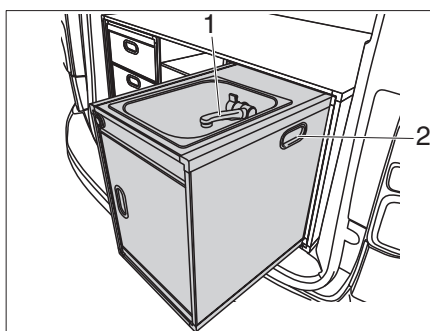

Fig. 15 Flushing module
If necessary, the flushing module may be removed. The water tap (Fig. 15,1) and charging function of the USB outlet can still be used even after removal. The flushing module can also be used outside when the Campbox battery on the back of the flushing module is fully charged.
- Hold the recessed handles (Fig. 15,2) on the left and right then lift the flushing module from the vehicle.